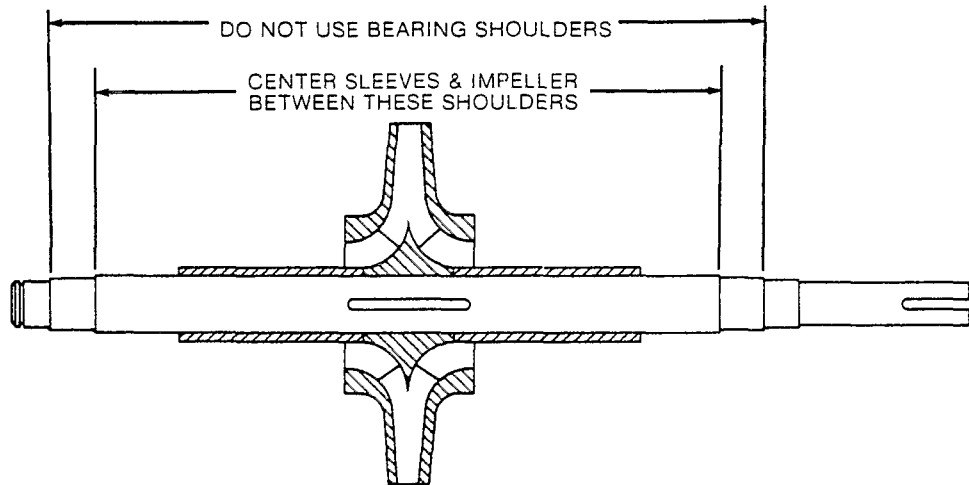

FIGURE 7
- B. If the impeller wear rings (17) require replacement, they are a light press fit and will be secured by one of the following methods. You should proceed as follows:
- C. Install the impeller key (102) in the shaft (4) and slide the impeller (1) over the key centering it between the shaft shoulders as shown in Figure 7.
Install the impeller key in the shaft and coat the impeller area of the shaft with Loctite 601 and press the impeller onto the shaft, centering it between the shoulders as shown in Figure 7.
**CAUTION: THE LINEAR POSITION OF THE IMPELLER MUST BE OBTAINED AND THE SHAFT SLEEVES MUST BE PROPERLY LOCATED. REFER TO FIGURE 7 ON PAGE 17 OF THIS MANUAL. IF PROVIDED, SHAFT SLEEVE NUTS MUST BE TIGHTENED WITHIN 10 MINUTES AFTER THE LOCTITE IS APPLIED. TO ACCOMPLISH LINEAR POSITIONING OF THE IMPELLER, LEAVE AN EQUAL AMOUNT OF SHAFT OR SHAFT THREADS EXPOSED ON EACH END OF THE SHAFT AFTER THE ASSEMBLY IS COMPLETED. ALLOW 4 HOURS FOR THE LOCTITE TO CURE BEFORE COMPLETING THE PUMP ASSEMBLY.**
- F. If your pump is equipped with mechanical seals or solid packing glands, install the seals (156) and mechanical seal glands (B31) or solid packing glands before proceeding. Refer to the seal manufacturer's instructions supplied with your pump.
- G. Install the water deflectors (126) on each end of the shaft.
- I. Install the outboard (168) and inboard bearings (163).
- J. Install the snap ring (345) on the outboard end of the shaft. Pack both bearings approximately one-half full of a lithium base NGLI2 all-purpose bearing grease.